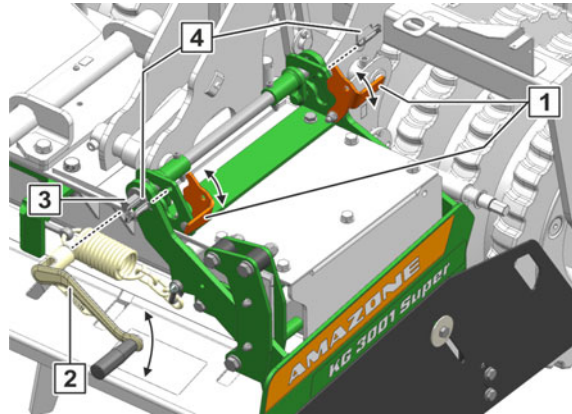

Fig. 144
1. Remove the linch pin (Fig. 144/4)
2. Put the operating tool (Fig. 144/2) on the setting shaft (Fig. 144/3).
3. To relieve the angle bracket (Fig. 144/1), turn the operating tool counterclockwise.